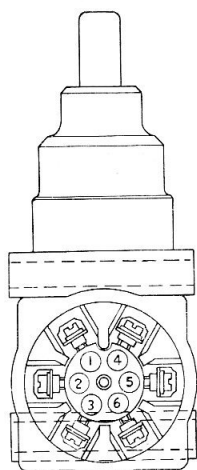
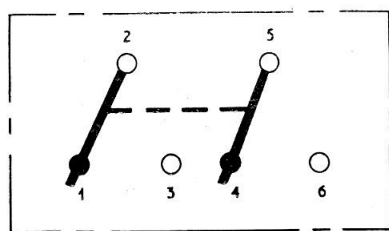

Fig. 2. Terminal arrangement
Fig. 3. Circuit diagram
3. A view of the terminal connections is shown in figure 2, six 6 B.A. terminals connect the microswitch to the 28V. d.c. supply. A circuit diagram is shown in Fig. 3.